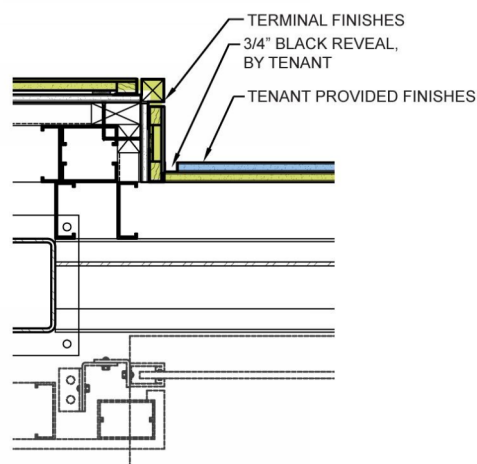

Figure 3.7A 3/4" Reveal Section at Parallel Sign Zone
2. The underside of the parallel sign band must align with the adjacent reveal at the neutral pier. *Reference Figure 3.7A and Sections 3.2 Central Terminal B Design Conditions and 3.3 Airside B Design Conditions* for reveal locations indicated on the elevations.